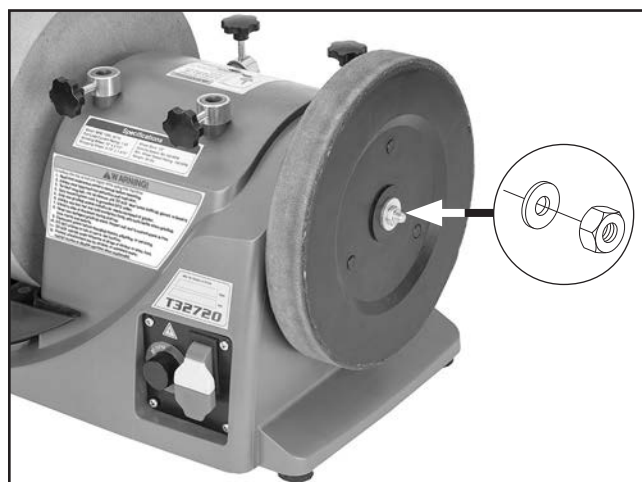

Figure 28. Location of arbor hex nut and flat washer.
3. Remove stopping wheel arbor hex nut and flat washer (see **Figure 28**).